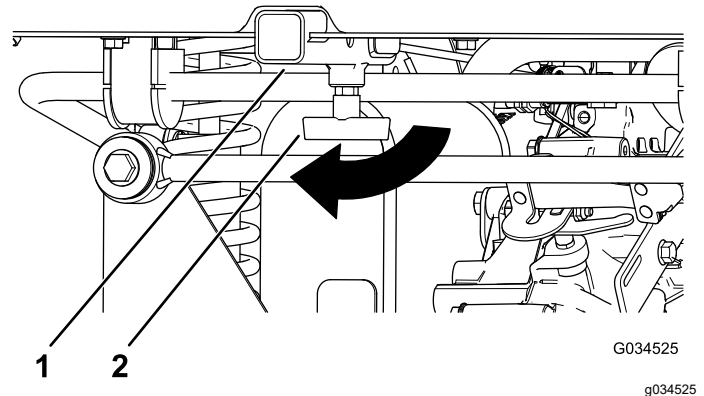

Figure 17
1. Loosen the T handle by rotating it clockwise (Figure 17).
2. Insert your accessory into the receiver until the accessory reaches the end of the receiver (Figure 17).